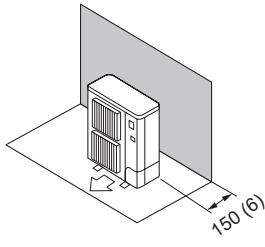

Fig. 2-6
(1) Obstacles at rear only (Fig. 2-6)